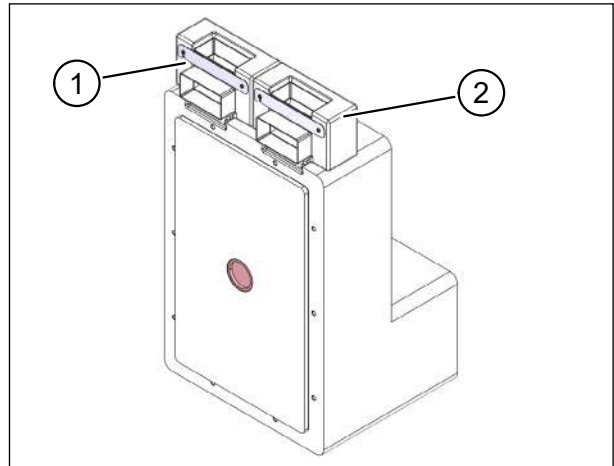
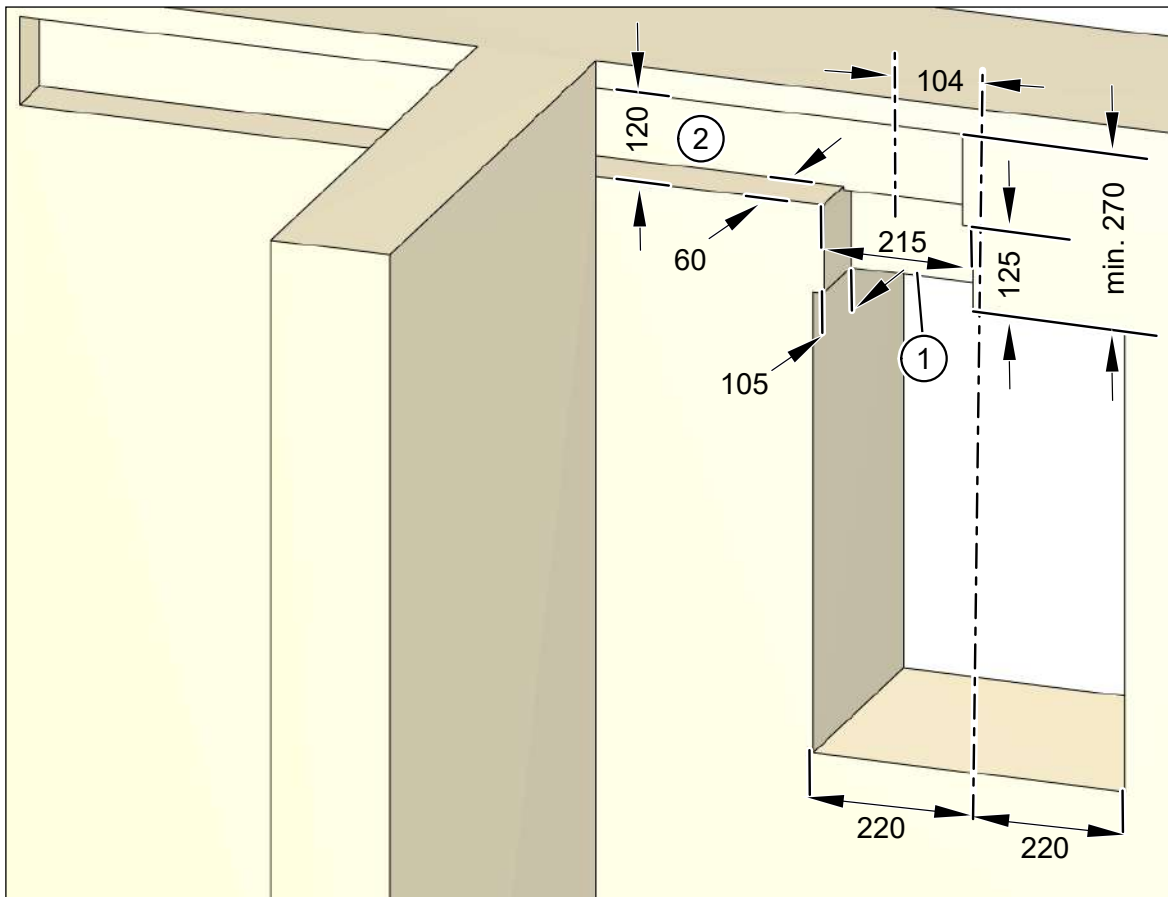
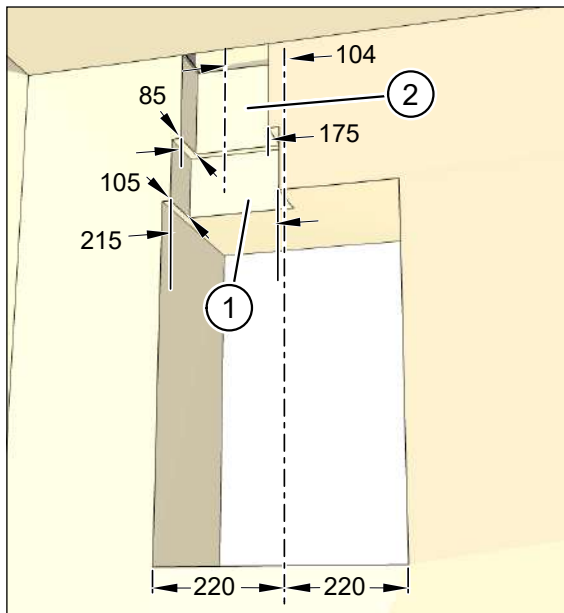
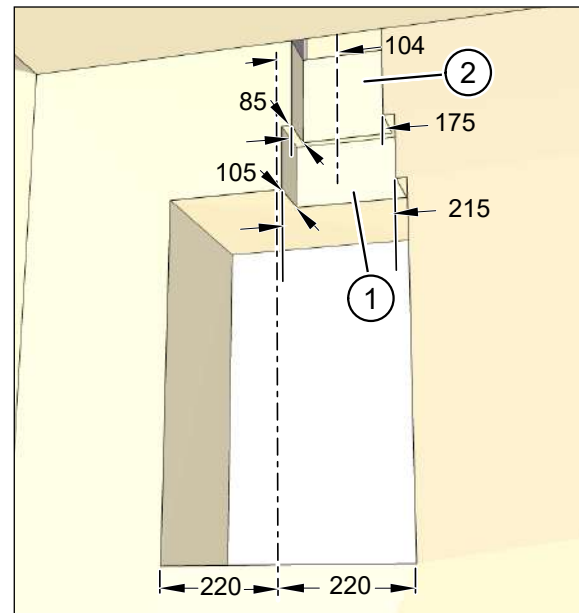

Fig. 11: Installation kit with ductwork connection adapter on the extract air and supply air sides
Fig. 13: Creating channel for ductwork connection on extract air side with flat ductwork (schematic representation)
Fig. 14: Creating channels for flexible pipe connection on extract air side, dimensions in millimetres (schematic representation)
Fig. 15: Creating channels for flexible pipe connection on supply air side, dimensions in millimetres (schematic representation)
In combination with the optional ductwork connection adapter M-WRG-II AD-UP this installation kit allows you to connect a 110 x 54 mm flat ductwork system or a 75 mm flexible pipe system on the extract air side (item 1 in Fig. 11), on the supply air side (item 2 in Fig. 11) or on both sides. The installation example shown in this section is a configuration with a flat ductwork connection on the extract air side. Various sample configurations are illustrated in section 9.2.1 and section 9.2.2.
- ▶ Create a channel (item 1 in Fig. 13) 215 mm wide and 105 mm deep (see Fig. 13) for the ductwork connection adapter (item 1 in Fig. 11 on page 21).
- ▶ Create a channel 120 mm wide and 60 mm deep (see Fig. 13) for the extract air duct (item 2 in Fig. 13).
- Example: Flexible pipe connection **on the extract air side** (item 1 in Fig. 14)
- Example: Flexible pipe connection **on the supply air side** (item 1 in Fig. 15)
- ▶ Create a channel (item 1 in Fig. 14 or Fig. 15) 215 mm wide and 105 mm deep (see Fig. 14 or Fig. 15) for the ductwork connection adapter (item 1 in Fig. 11 on page 21).
- ▶ Create a channel (item 2 in Fig. 14 or Fig. 15) for the flexible pipe 175 mm wide and 85 mm deep as far as the flexible pipe outlet in the ceiling.